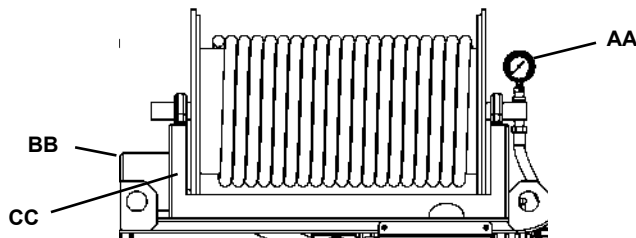

Figure 9
1. Turn the Pump Spray Pressure knob (Fig 5.) clockwise to increase pressure and counterclockwise to decrease pressure. The coating pressure gauge displays spray pressure (Fig 9.)